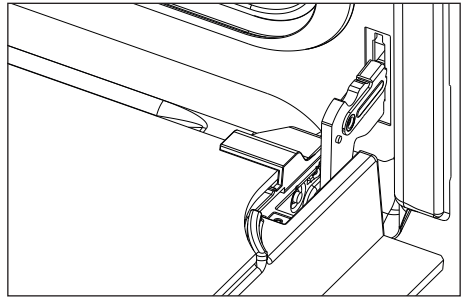

Figure 41
- Open the lever "A" completely on the left and right hinges (fig. 41).
- Gently close the door until left and right hinge levers "A" are hooked to part "B" of the door (figs. 41, 42).